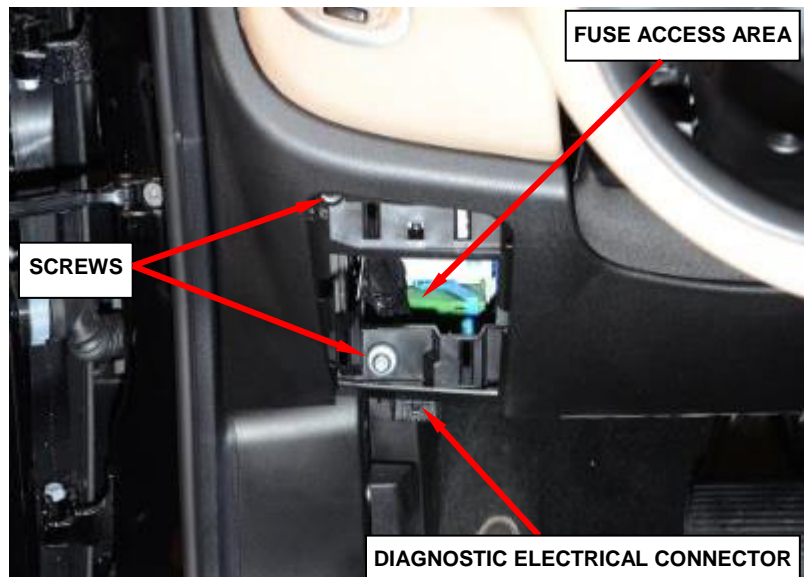

Figure 8 – Fuse Cover
- 4. Remove and save the two screws from the fuse access area (Figure 8).
- 5. Release the diagnostic electrical connector from the steering column closeout panel (Figure 8).